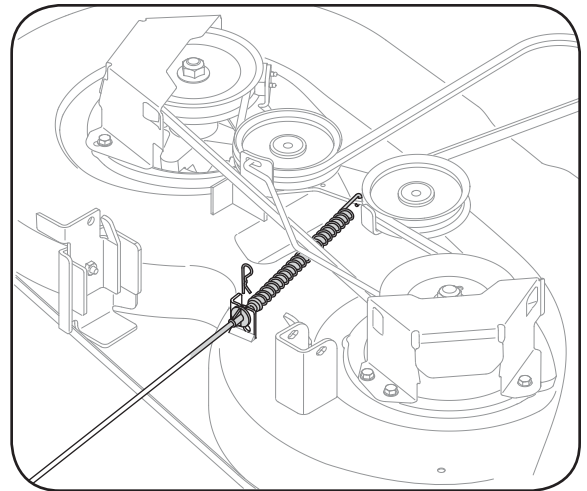

Figure 6-7
9. Carefully remove the PTO cable from the rear of the cutting deck by removing the hair pin clip which secures it. Remove the spring from the deck idler bracket. See Figure 6-7.